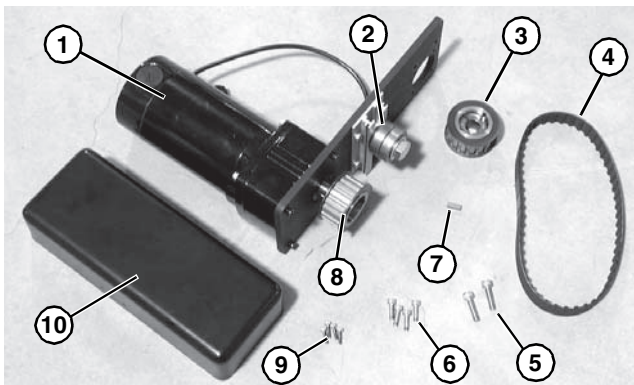

Figure 3
1. Typical components (**Figure 3**)